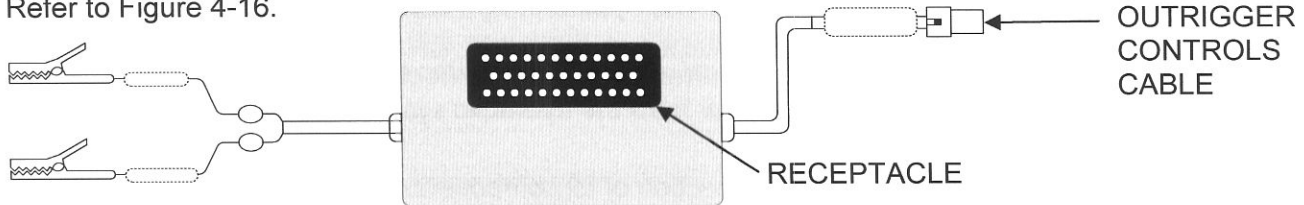

Figure 4-16. Manual Outrigger Control Wire Harness
Refer to Figure 4-16.
- Plug it into the receptacle on the Manual Outrigger Control Wire Harness. Refer to Figure 4-16.
- Disconnect the wire harness from **C7 VALVE** on the hydraulic power unit and replace it with the Outrigger controls cable. Refer to Figure 4-16 and 4-18.